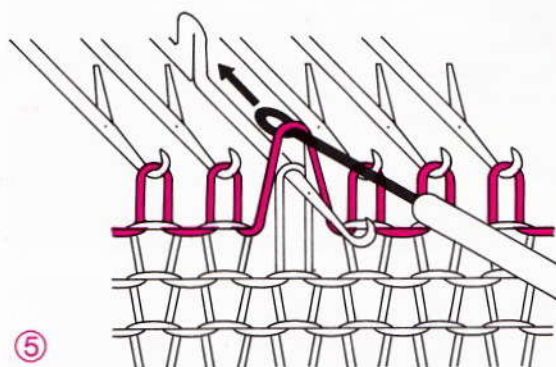

Fig. 216
- Lift thread up above the latch and drop it into the hook of the needle; the stitch stays behind the latch (fig. 216).